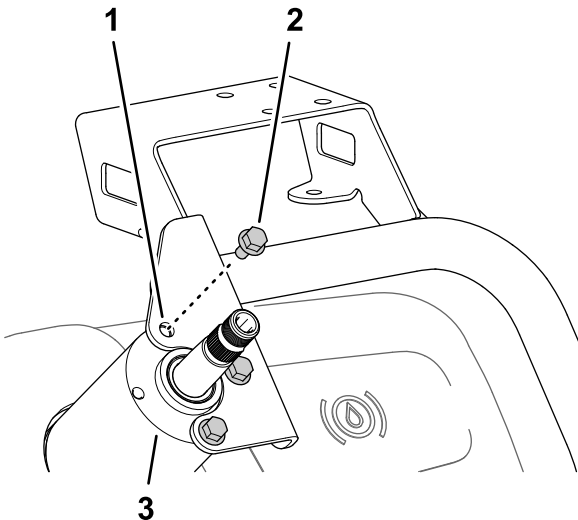

Figure 163
- Assemble the monitor mount to the housing of the steering valve (Figure 163) with the 3 flange-head bolts (6 x 12 mm).